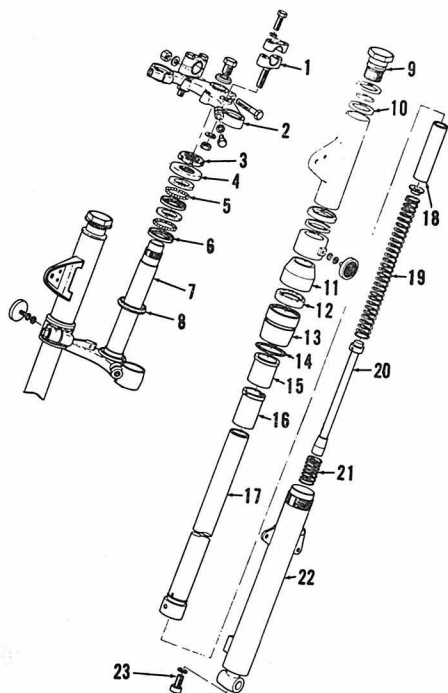

Fig. Y10-9—Exploded view of typical CT-1 and AT-1 front end assembly. HT-1 units are similar.
**SUSPENSION.** Front suspension units use SAE 10W/30 motor oil. The HT-1 requires 140 cc of fluid; CT-1 and AT-1 units require 152cc of fluid in each fork tube. Forks may be disassembled by removing the outer tube nut (13—Fig. Y10-9) and holding bolt (23). HT-1 units are similar but have no bolt (23).